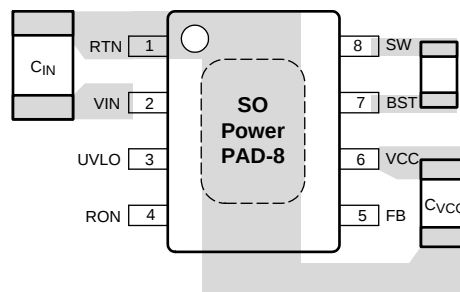

Figure 19. Placement of Bypass Capacitors
1. C_{IN} : The loop consisting of input capacitor (C_{IN}), V_{IN} pin, and RTN pin carries switching currents. Therefore, the input capacitor should be placed close to the IC, directly across V_{IN} and RTN pins and the connections to these two pins should be direct to minimize the loop area. In general it is not possible to accommodate all of input capacitance near the IC. A good practice is to use a $0.1\mu\text{F}$ or $0.47\mu\text{F}$ capacitor directly across the V_{IN} and RTN pins close to the IC, and the remaining bulk capacitor as close as possible (see Figure 19 Placement of Bypass Capacitors).
2. C_{VCC} and C_{BST} : The V_{CC} and bootstrap (BST) bypass capacitors supply switching currents to the high and low side gate drivers. These two capacitors should also be placed as close to the IC as possible, and the connecting trace length and loop area should be minimized (See Figure 19).